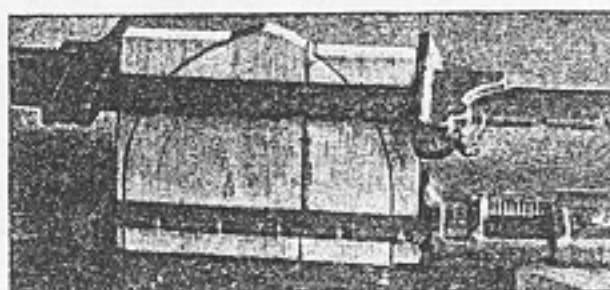

Fig. 275. Gluing up curved work. Special gluing blocks made to fit curves.
5. When curved surfaces are to be clamped, special gluing blocks must be made to fit over the curves so that the pressure of the clamps will draw up the joint tightly (Fig. 275).